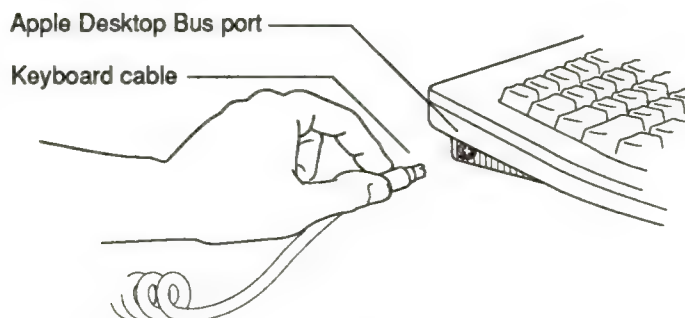

Figure 6. Connecting the keyboard cable to the keyboard
3. With the keyboard facing you, plug one end of the keyboard cable into the ADB port on the left side of the keyboard, as shown in Figure 6.